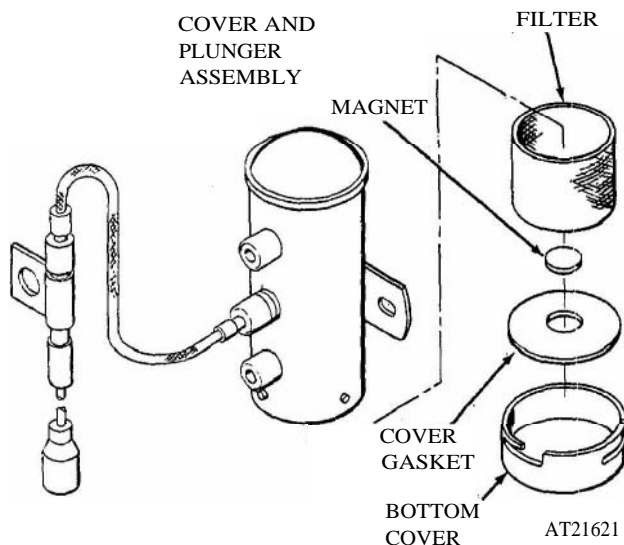

Figure 3-248. Ambulance heater fuel pump, exploded view.
- (1) Twist and remove bottom cover (fig 3-248) and cover gasket from cover and plunger assembly.